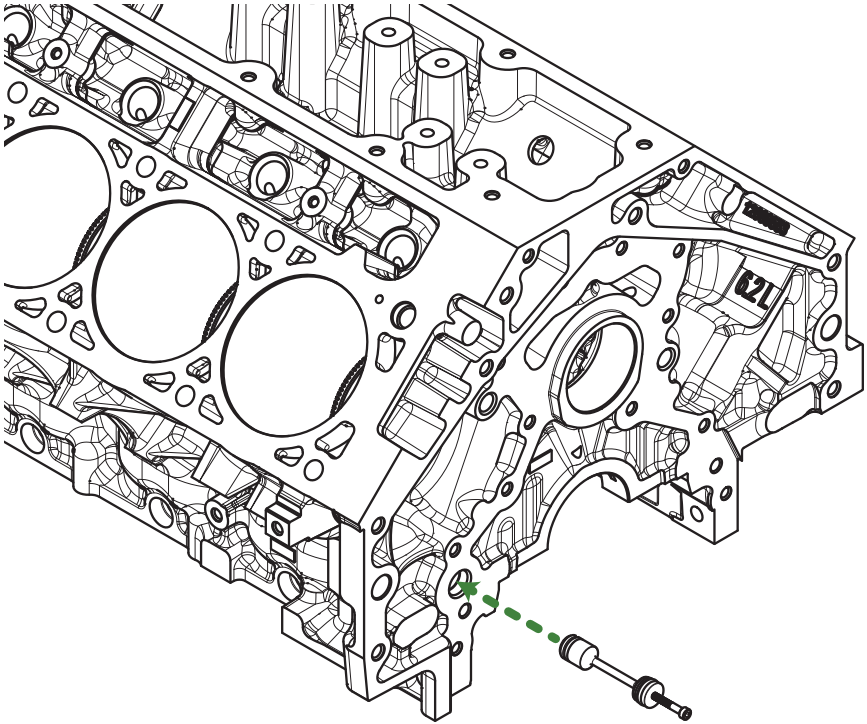

Figure 2 - Rear galley plug installation
1. Use a flat prying tool to remove the OEM plastic plug from the left rear oil galley of the engine block (see Figure 2 for hole location).
- 4. Carefully insert the plug into the rear oil galley shown in Figure 2.